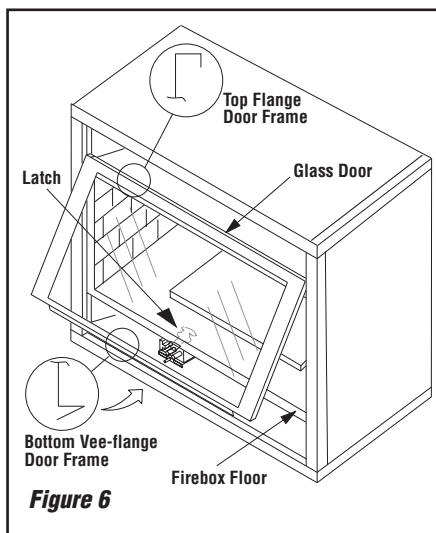

Figure 6
- 1 - Lower the bottom control compartment access panel. Remove the glass enclosure panel: open the latch (located in the center of the unit front opening, under the firebox floor) securing the glass enclosure panel. Remove the panel by tilting it outward at the bottom and lifting it up. Set the door aside protecting it from inadvertent damage. See **Figure 6 on Page 8**.
Refer to Figure 6 and remove the front glass enclosure panel as follows: